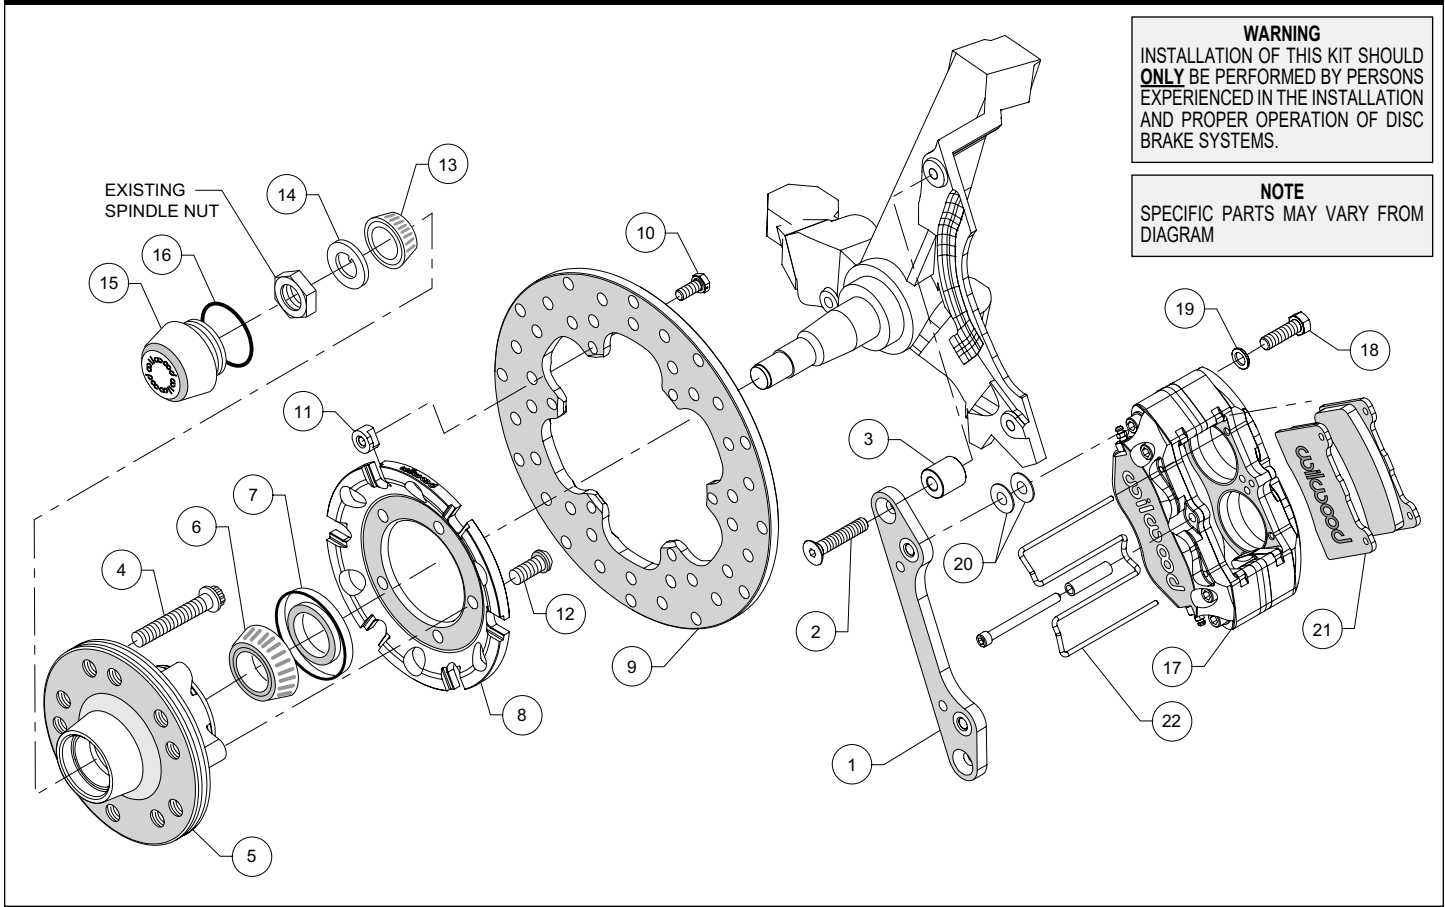
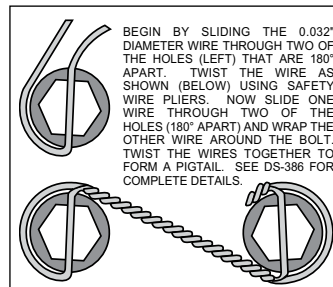
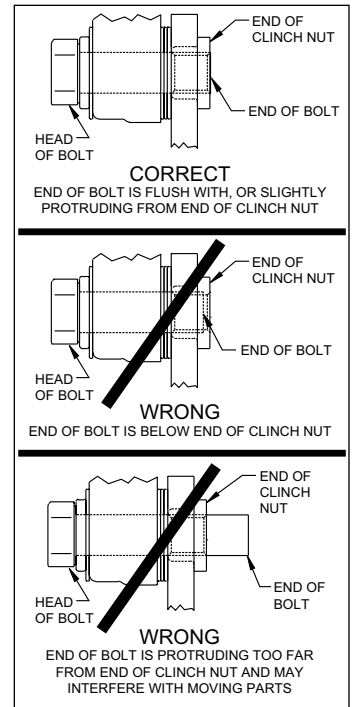

Figure 2. Typical Installation Configuration
Figure 4. Safety Wire Diagram
Figure 5. Clinch Nut Engagement Diagram
**NOTE:** Numbers in parenthesis refer to the parts list and Figure 2 on the preceding pages.
**CAUTION:** All mounting bolts must fully engage clinch nuts. Be sure to check that all bolts are either flush or protruding through flanged side of clinch nut after shimming, Figure 5.
- Orient the caliper mounting bracket (1) as shown in Figure 2 and Photo 1. Attach using bolts (2) and spacers (3), Figure 2. Temporarily tighten the mounting bolts. Ensure that the flanged side of the clinch nuts in the bracket are facing outboard, Photo 1. **NOTE:** The bracket must fit squarely against the mounting points on the spindle. Inspect for interference from casting irregularities, machining ridges, burrs, etc. Remove bolts one at a time, apply red *Loctite*® 271 to threads and torque to 30 ft-lbs.
- Install wheel studs (4) into the hub (5), Photo 2. Torque to 77 ft-lb. **NOTE:** There are two five lug patterns in the hub (5 x 4.50 and 5 x 4.75). Ensure the correct hub stud pattern is being used to fit the wheel application.
- Pack the large inner bearing cone (6) with high temperature disc brake bearing grease (available from your local auto parts store) and install into the backside of the hub (5), Photo 3.
- Install the grease seal (7) by pressing into the backside of the hub (5), flush with the end of the hub, Photo 3.
- Orient the rotor (9) and the rotor adapter (8) as shown in Figure 2 and Photo 4. Attach the rotor to the adapter using bolts (10) and T-nuts (11). Apply red *Loctite*® 271 to the bolt threads and torque to 220 **in-lb** using a criss-cross pattern. Safety wire bolts using standard 0.032 inch diameter stainless steel safety wire as shown in Figure 4. Refer to Wilwood's data sheet DS-386 (available at [www.wilwood.com/Pdf/DataSheets/ds386.pdf](http://www.wilwood.com/Pdf/DataSheets/ds386.pdf)) for complete safety wire installation instructions.
- Mount the adapter/rotor assembly (8 and 9) to the hub (5) using bolts (12), as shown in Figure 2 and Photo 5. Using an alternating sequence, apply red *Loctite*® 271 to the threads, and torque to 45 ft-lb.
- Pack the small outer bearing cone (13) with high temperature disc brake bearing grease and install into hub (5). Slide the hub/rotor assembly onto the spindle. Secure using spindle washer (14) and OEM spindle nut, Photo 6. Adjust bearings per OEM specifications. Install saved OEM nut lock (if any) and a new cotter pin (not included).
- Screw dust cap (15) into hub (5), Photo 7. Friction created by the o-ring (16) on the dust cap keeps it from unscrewing. **NOTE:** The O.D. of the existing OEM spindle washer may be larger than the I.D. of the dust cap not allowing it to seat against the hub face. Therefore, use the spindle washer (14) supplied with the kit instead of the OEM washer.
•**NOTE:** Please reference the caution statement at the beginning of the assembly instructions. Mount the caliper (17) onto the caliper mounting bracket (1) using bolts (18) and washers (19), as shown in Figure 2. Initially place two .035" thick shims (20) on each bolt between the caliper and the bracket, Photo 8. Temporarily tighten the mounting bolts and view the rotor (9) through the top opening of the caliper. The rotor should be centered in the caliper, Photo 9. If not, adjust by adding or subtracting shims (20) between the bracket and the caliper. Always use the same amount of shims on each of the two mounting bolts. **NOTE:** The end of each bolt must be flush with or slightly protruding from the head of the clinch nut, as shown in Figure 5. If necessary place spare shims (20) between washer (19) and caliper mounting ear to achieve the proper clinch nut engagement. Once the caliper alignment and clinch nut engagement are correct, remove the bolts one at a time, apply red *Loctite*® 271 to bolt threads, and torque to 40 ft-lb. For an added measure of security, the bolts may be safety wired using standard 0.032 inch diameter stainless steel safety wire as shown in Figure 4. Refer to Wilwood's data sheet DS-386 (available at [www.wilwood.com/Pdf/DataSheets/ds386.pdf](http://www.wilwood.com/Pdf/DataSheets/ds386.pdf)) for complete safety wire installation instructions.
•Install the disc brake pads (21) into the caliper, with the friction material facing the rotor (9), Photo 10, and secure in place using pad retainer clip (22), Photo 11.